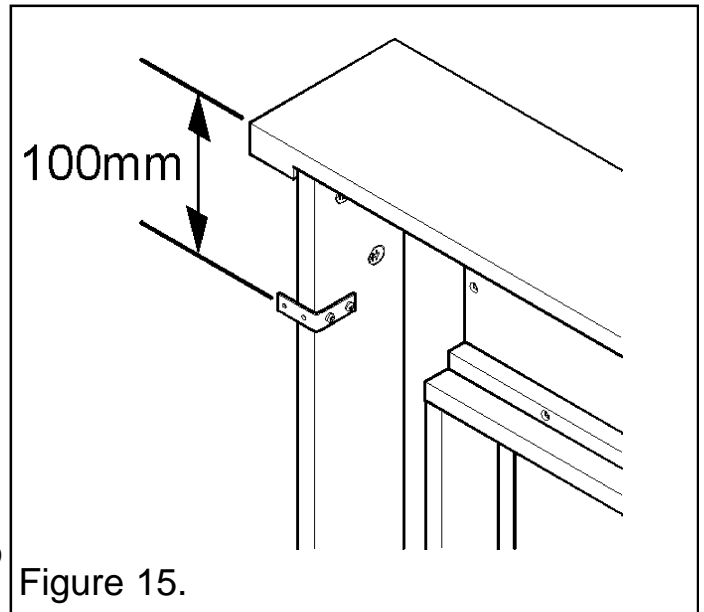

Figure 15.
- Place the wall fixing brackets 100mm from the top of the surround as shown in figure 15. Secure in place using four 10mm screws.